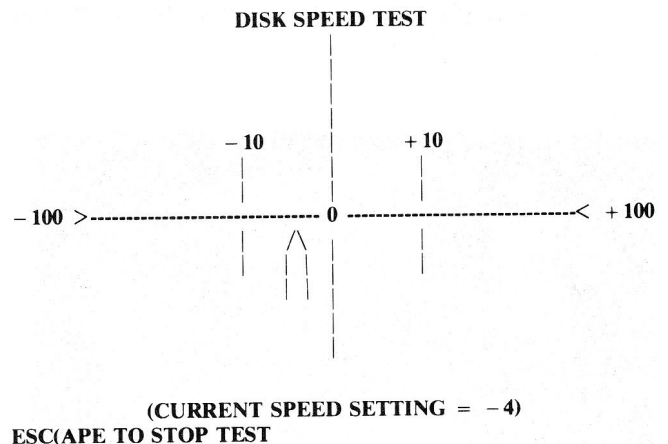

Fig. 8-21. Sample disk speed test screen display.
7. Most speed test programs display a graduated scale of the sort shown in Fig. 8-21. Using a jeweler's screwdriver, slowly turn the speed control adjustment pot screw until the speed display shows the actual rpm close to the ZERO reference or 300 RPM point. (The best position is just under or to the left of the reference. This allows for creep as the system wears.)